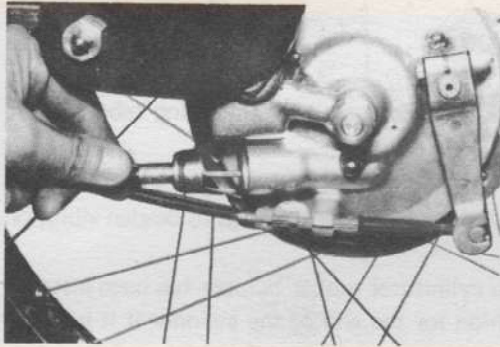

Fig. 4-2
1. Pull out the speedometer cable from the front wheel by taking off its clips. (Fig. 4-2)